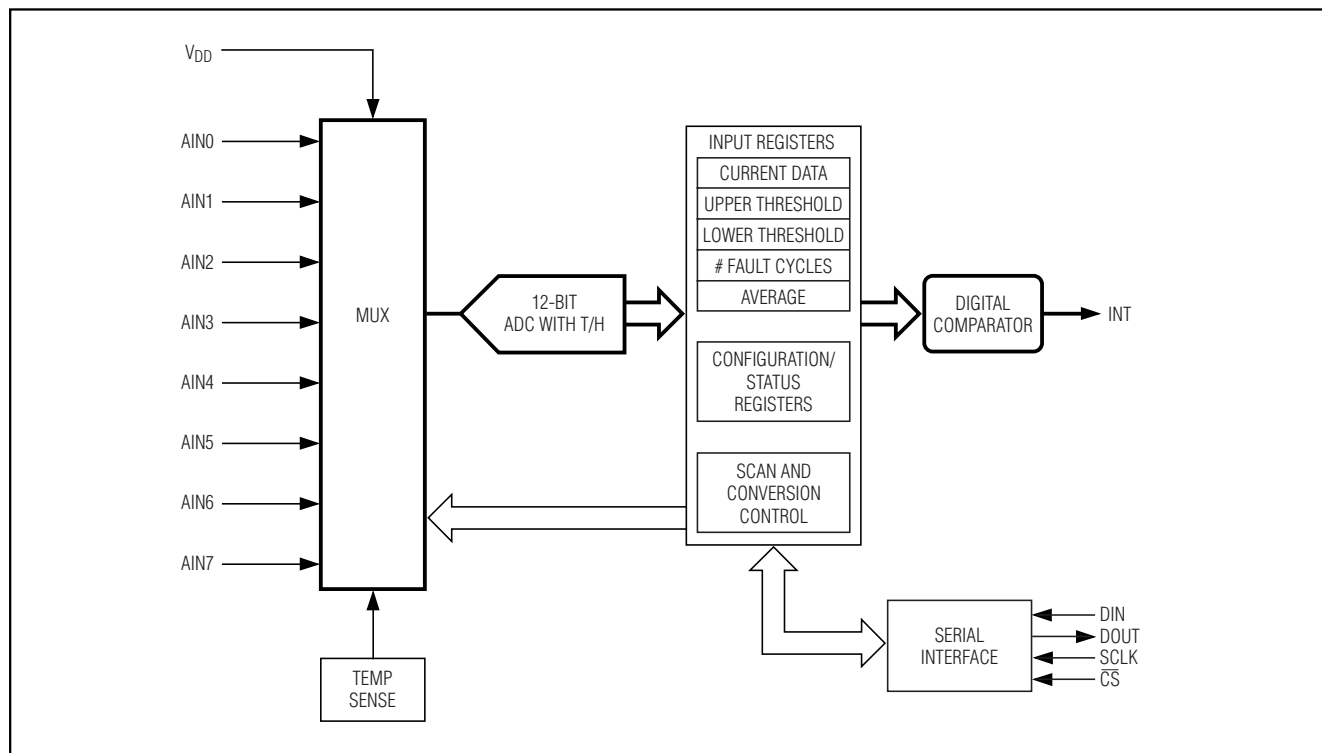

Figure 3. Simplified Alarm Block Diagram of the MAX1253/MAX1254
**Note 6:** See Figure 3 and the Sampling Error vs. Input Source Impedance graph in the *Typical Operating Characteristics* section.
The MAX1253/MAX1254 are precision-monitoring integrated circuit systems specifically intended for stand-alone operation. They can monitor diverse types of inputs, such as those from temperature sensors and voltage signals from pressure, vibration, and acceleration sensors, and digitize these input signals. The digital values are then compared to preprogrammed thresholds and, if the thresholds are exceeded, the processor is alerted by an interrupt signal. No interaction by the CPU or microcontroller ( $\mu\text{C}$ ) is required until one of the programmed limits is exceeded (Figures 3 and 4).